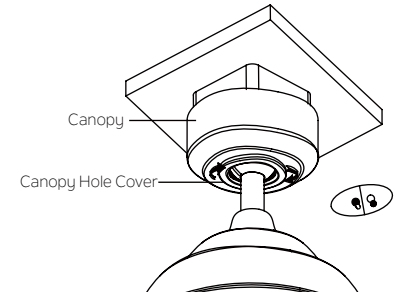

Fig. 19
Step 3. Securely attach and tighten the canopy hole cover over the shoulder screws in the mounting bracket utilizing the keyslot twist-lock feature. (Fig. 19)